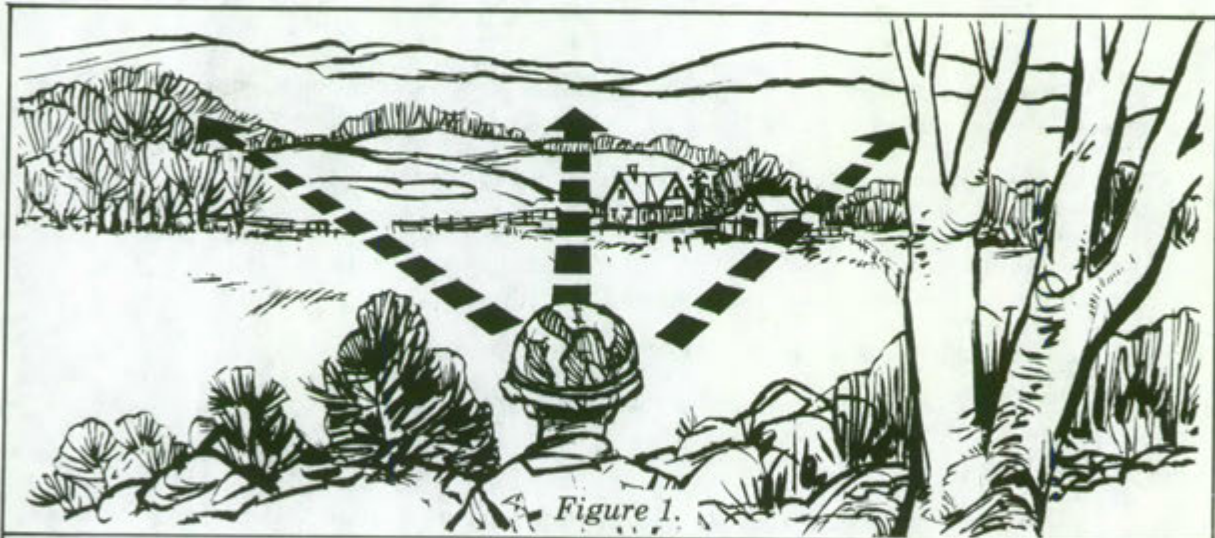

Figure 1.
a. Make a quick overall search of the entire area by quickly raising your eyes from just in front of your position to the maximum range you wish to observe (figure 1). (For a wide area, subdivide and repeat procedure.)